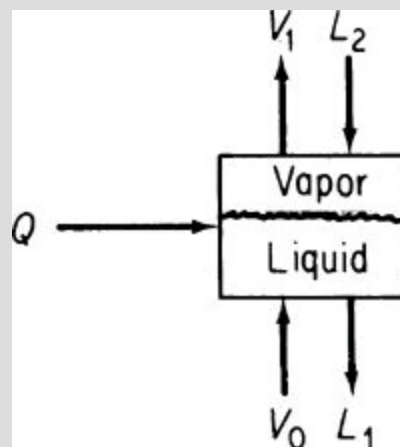

Figure E12.1e
e. Two-phase well-mixed tank (stage) at equilibrium (Figure E12.1e) (L , liquid phase; V , vapor phase): Here $W = 0$. Although two phases exist (V_1 and L_1) at equilibrium inside the system, the streams entering and leaving are single-phase streams. By equilibrium we mean that both phases are at the same temperature and pressure and that an equation is known that relates the composition in one phase to that in the other for each component.